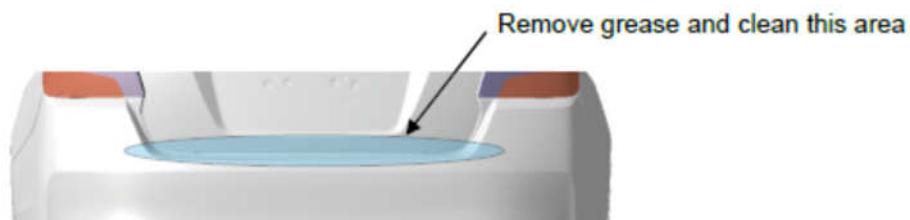

Fig. 7
7) As shown in Figure 7, remove all grease from the area where the trunk lid garnish is to be applied, clean the area thoroughly, and check that there is no wax, etc. remaining on the area.